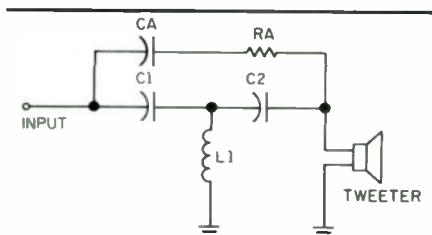

FIGURE 1: Sample of standard crossover.
1. Start with your present crossover, which will be similar to the one presented in Fig. 1, using your current values of C1, C2 and L1 or those given by any standard crossover equations. Ca and Ra are the components for the AB mod.